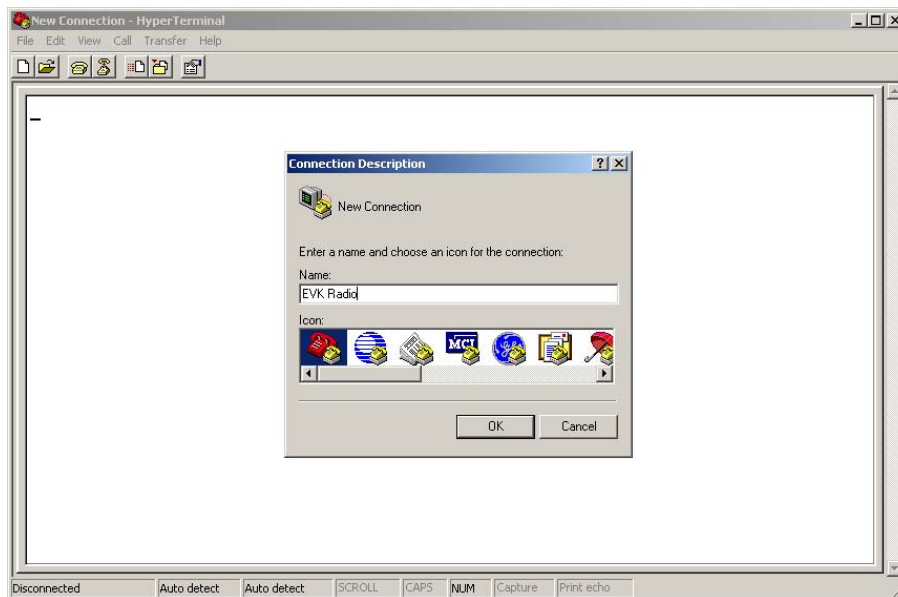

Fig. 6: Establishing a new connection for the radio using HyperTerminal
3. Enter a name for the connection (i.e. "EVK Radio, or EVK Radio #1 etc,") and click **OK** (Fig.6).